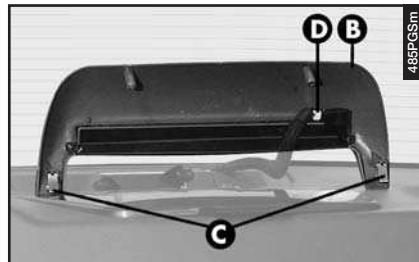

fig. 64
— Slacken the two screws fastening the light unit (**B**-fig. 64) and remove it releasing the two catches (**C**).
- Disconnect the connector (**D**-fig. 64) of the light unit.
- Connect the connector (**D**-fig. 64).
— Re-position the unit correctly firstly inserting the two catches (**C**-fig. 64) and then tightening the fastening screws.